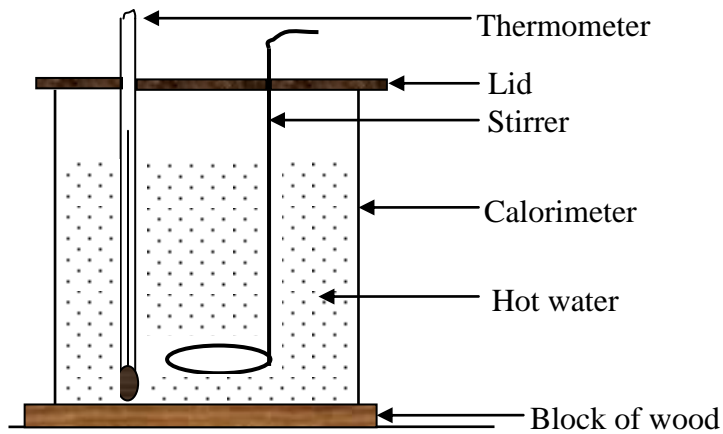

Figure 27
- (c) Then, pour the hot water into the calorimeter until it is about three quarters full before setting the calorimeter up as shown in Figure 27: